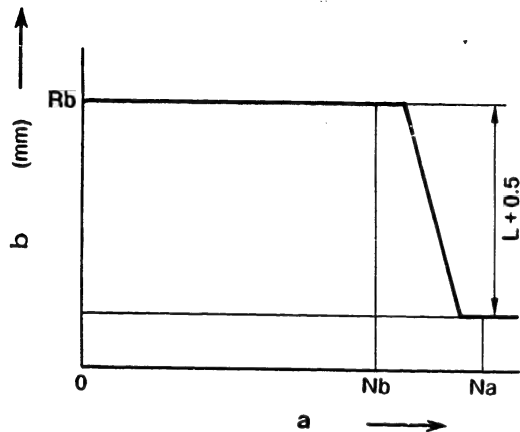

Fig. 148
- Next, lower the pump speed to "Nb rpm" and adjust the high-speed lift to "L" using the stroke adjusting screw (38) (refer to Figs. 148 and 149).